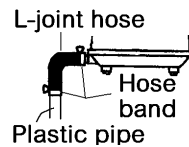

Fig. 1
- Be sure to secure place of connection with hose band (Ref: Fig 1).